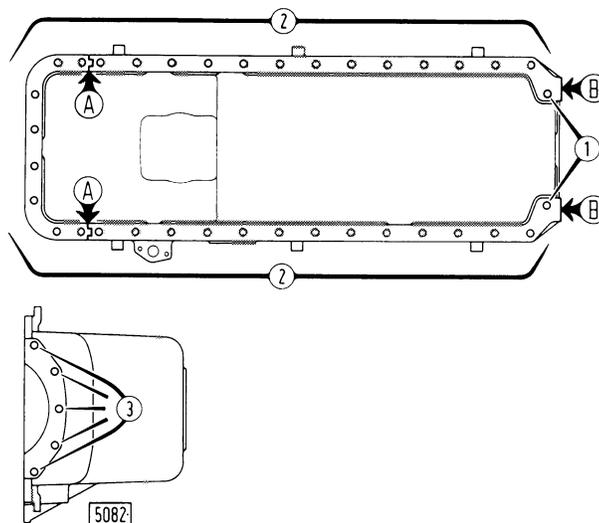

Fig. 9 - Engine oil pan tightening diagram.
- Coat gasket seams (A, fig. 9) and ends (B) with jointing compound.
- Place the pan in position and turn in screws (2) a few turns.
- Fully tighten screws (1) and turn screws (3) to 3/4 of their full depth.
- Slightly slacken screws (1) and fully tighten screws (3).
- Fully tighten screws (2) in a staggered sequence.
- Check that screws (3) are adequately tight and tighten the screws (1). See chapter 9 for tightening torques.